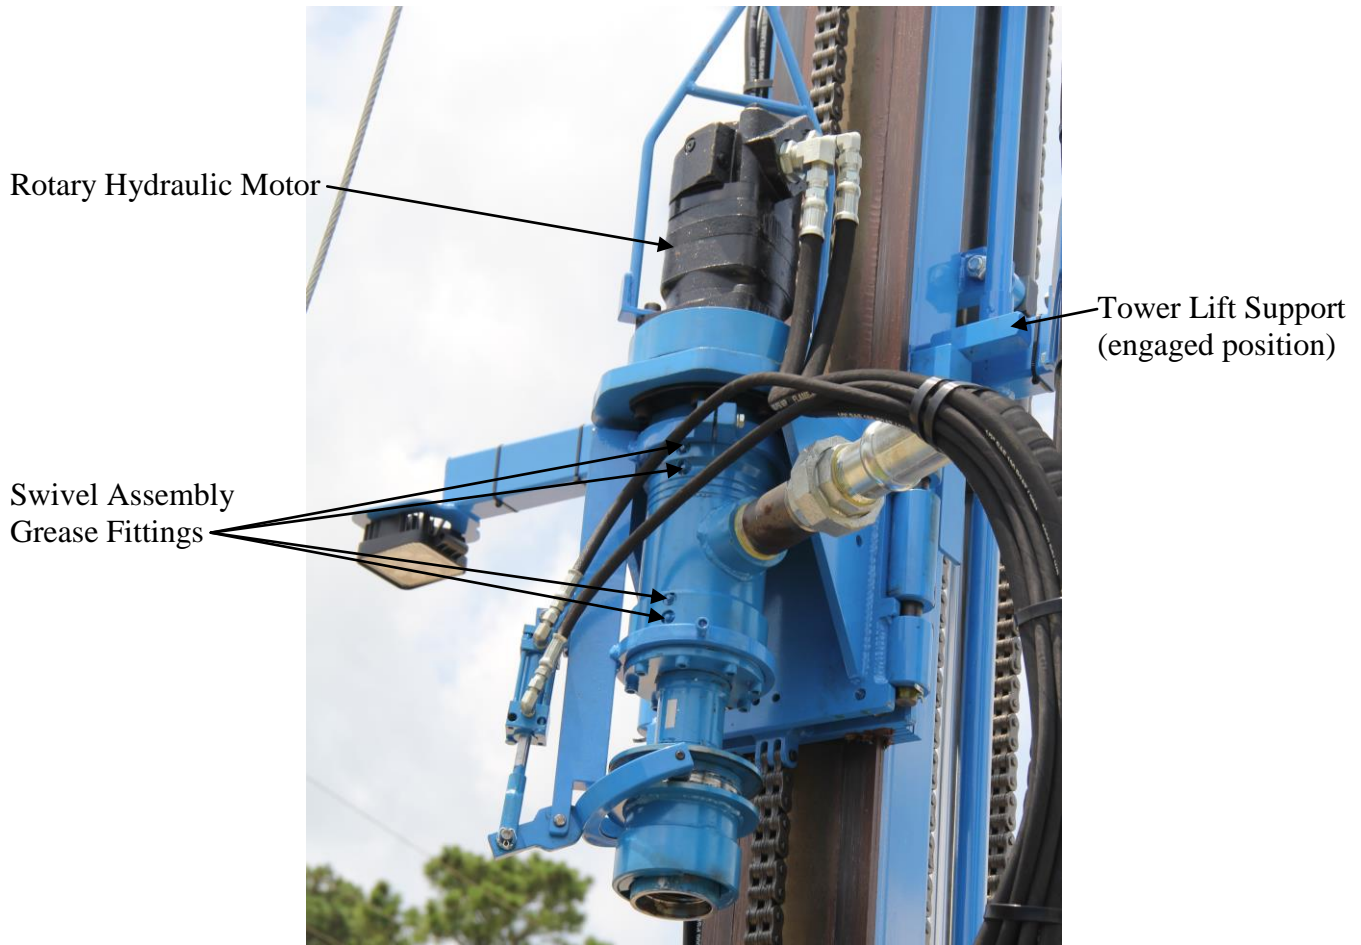

Figure 3 Rotary Drill Head Assembly
**IMPORTANT: Do not over-grease. Do not over-pressurize.** Apply grease to all four (4) grease fittings using a grease gun. See figure 3. Pump until resistance is felt, then remove the grease gun. **Release pressure from the swivel and packing by depressing the ball check in all four (4) grease fittings with a sharp object such as a screwdriver blade.**
**Note: If pressure is not properly released, excessive and undue wear of the swivel shaft will result.** If swivel should bind up while lubricating and will not rotate, release pressure by depressing the ball check in all four (4) grease fittings.
- Engage (L-shaped) tower lift supports by lifting and pivoting 90° outward on both sides of rotary drill head assembly. See figure 3.